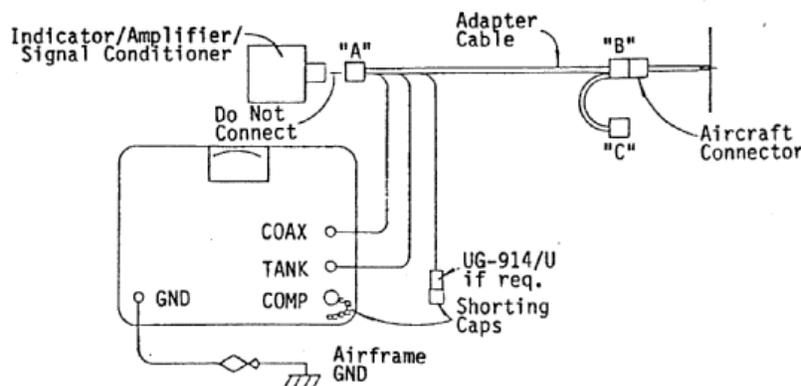

Figure 10 CONFIGURATION OF CAPACITANCE TEST
- (1) Connect the adapter cable connector to the aircraft connector that has been removed from the amplifier (refer to Figure 10).